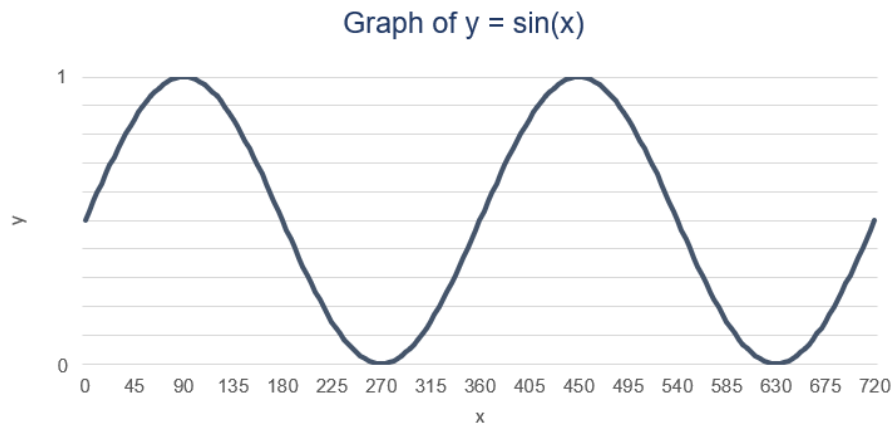

Figure 2: A sine wave shift to $[0, 1]$.
3. If SW2 (interfaced to PF0) is pressed, then the signal to be generated is a sine wave with the period of 60 ms. The shape of a sine wave is shown in Figure 2 below. We will shift the sine wave to be in 0 to the full-scale voltage.